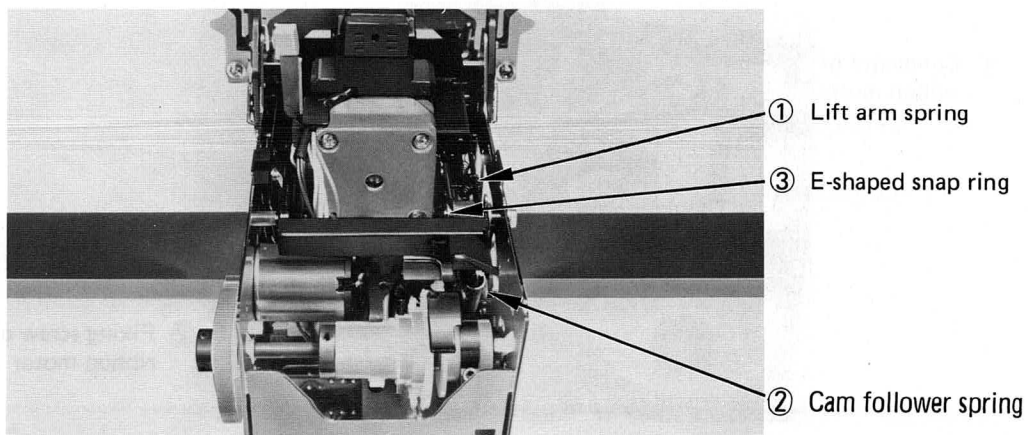

Fig. 5.15
- Step 2. Remove lift arm spring ① and cam follower spring ②. (Fig. 5.15)
- Step 3. Remove E-shaped snap ring ③ and then remove the cam follower (Fig. 5.15)